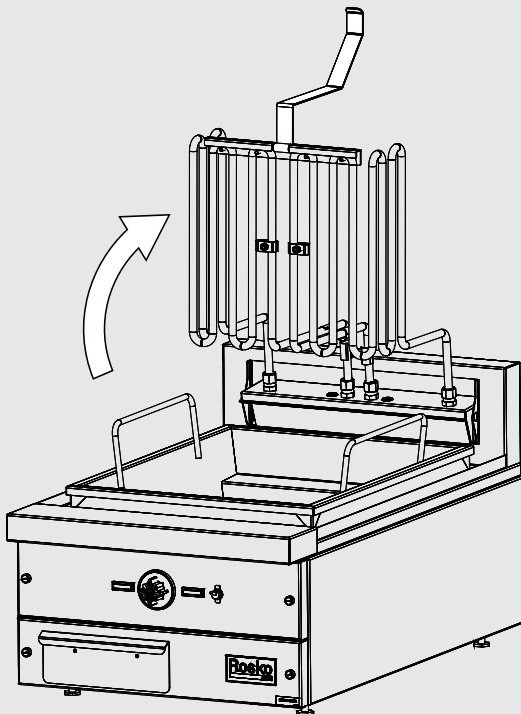

Figure 12
2. Remove the baskets and lift the elements using the front handle. **(Figure 12)**